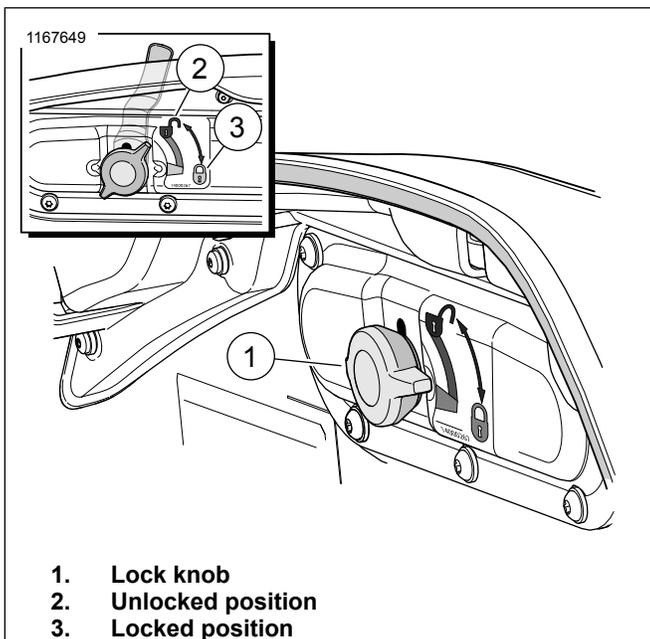

Figure 2. Saddlebag Lock Knob (Typical)
1. Refer to Figure 2. Open saddlebag.
2. Pull out and turn lock knob (1) to the unlocked position (2).